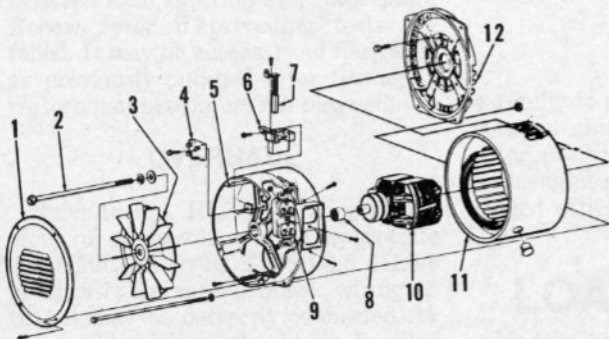

Fig. HL4-1—Exploded view of generator.
BRUSHES. Brush length and condition should be checked after every 1000 hours of operation. Brushes can be inspected after removing brush head cover (1—Fig. HL4-1), rotor bolt (2) and fan (3).
DISASSEMBLY AND REASSEMBLY. Refer to Fig. HL4-1 for an exploded view of generator and to appropriate schematic. Be sure to mark wiring so that it may be correctly connected for reassembly. Wire should be handled carefully to prevent damage to wire, insulation or connections. Generator rotor (10) has a taper fit with engine crankshaft and should be removed with a suitable tool.